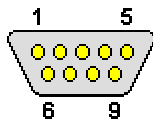

Figure 3-26: Serial Communications Connector Pinout Locations
- CN Pinouts:** See Figure 3-26, Table 3-30, Table 3-31 and Table 3-32